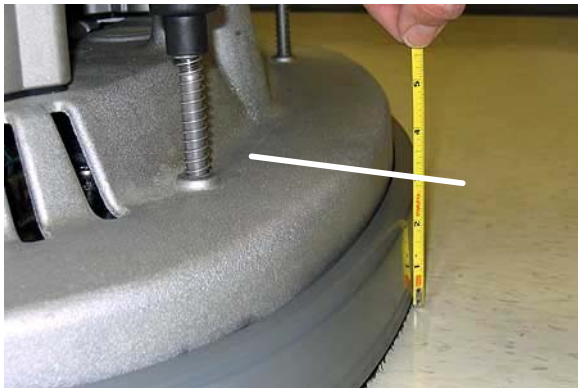

FIG. 48
3. From the center front and back of scrub head, measure the distance from the top edge of scrub head to the floor (Figure 48).